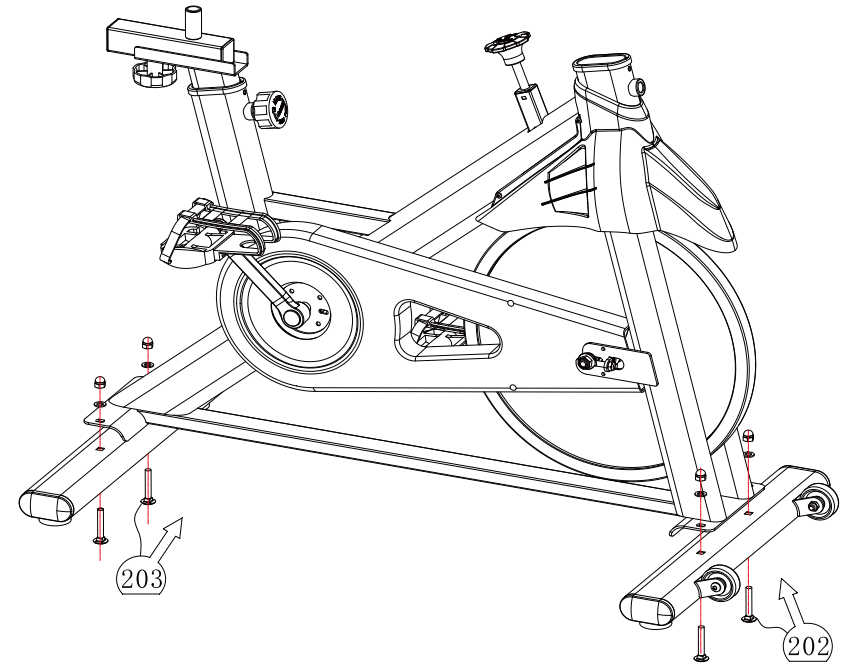

Figure 2
2. As shown in step 202 in Figure 2, insert two "Large Half-Round Head Square Neck Bolt M8x53" into the square hole of the "Front foot tube sets" to pass the arc of the front end of the main body while the carrying wheel is facing forward. The round hole of the shape piece is respectively inserted into the "flat washer $\Phi 9 \times \Phi 16 \times 1.6$ " and then screwed into the "cap nut M8", and the nut is tightened with a 13# wrench;
As shown in step 203 of Figure 2, two "Large Half-Round Head Square Neck Bolt M8x53" are respectively inserted into the square holes of the "rear foot tube assembly", and the adjustable foot pad is perpendicular to the bottom surface and then passes through the host. The round hole of the curved piece at the front end is respectively inserted into the "flat washer $\Phi 9 \times \Phi 16 \times 1.6$ " and then screwed into the "cap nut M8", and the nut is tightened with a 13# wrench;